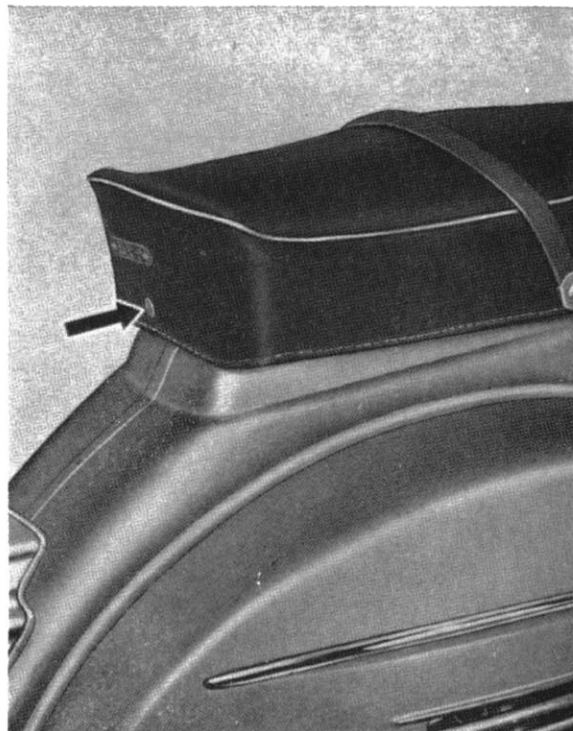

Fig. 5—Application of dual saddle
b) Unlocking the handlebars ACCESS TO FUEL TANK	<p>To release the handlebars, insert the key in the lock, turn it to the left and pull it back; then turn the handlebars in the normal position.</p> <p>The fuel tank is provided with a hinged cap located under the dual seat. For access to fuel tank pivot the seat on its forward edge, after having released the rear attachment as shown at fig. 5.</p>